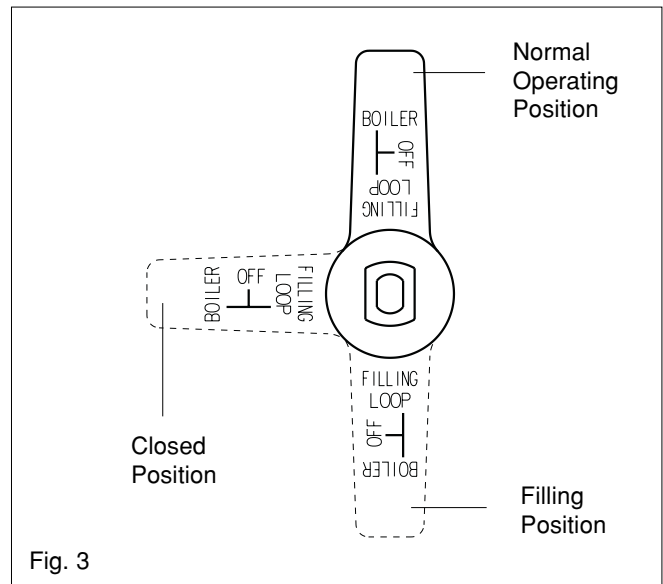

Fig. 3
- Move the filling valve (Right) slowly to the fill position (fig. 3) until you hear water entering the system.
- Move the filling valve back to its normal position (fig. 3) when the pressure gauge (on the boiler) reads between 1 and 1.5 bar.